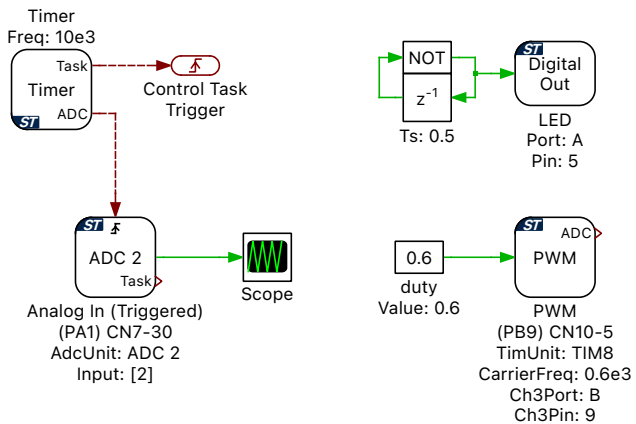

Figure 2: ADC start-of-conversion triggered by Timer
- 1 *Open a pre-built PLECS model:* Locate and open the PLECS model `stm32_trigger_pwm_loopback.plecs` from the reference files. You will notice that the start-of-conversion of the ADC is being triggered by the Timer at a frequency of 10e3 Hz and the PWM **Carrier frequency** is set to 0.6e3 Hz, as shown in Fig. 2.